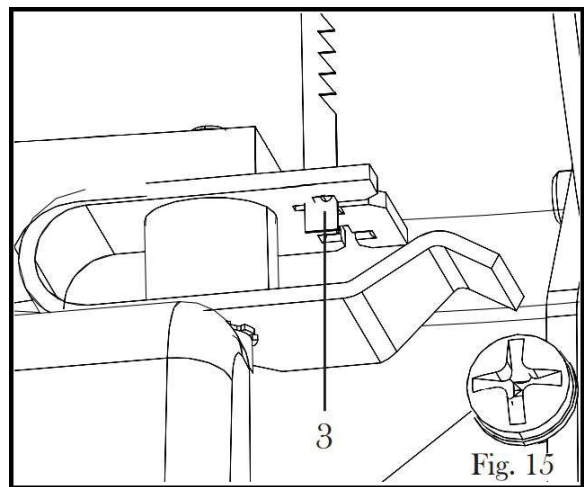

**Figure 13A**
2. Carefully pull up the table insert and remove it from the table. See figure 13A.
7. Carefully adjust the blade to the desired tension by turning the blade tensioning knob (1) clockwise.
8. Place the table insert back into place and press it firmly to make sure that it is correctly seated. See figure 13A.